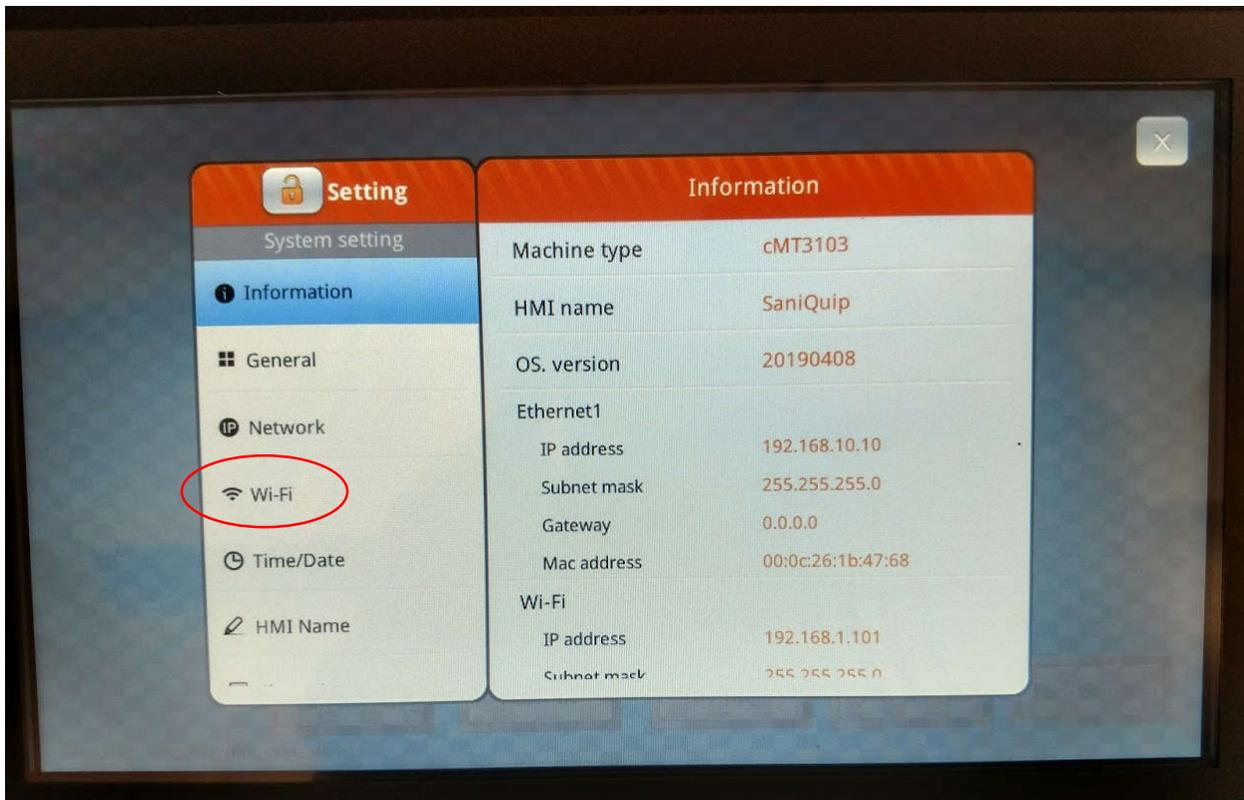

FIG.4 Unlocked internal menu
3. Once you have entered the password, press “Ok”. This will unlock the internal menu of the touchscreen. If done properly you will see the expanded menu, and the lock symbol will now show an open lock. This screen is shown in fig. 4.